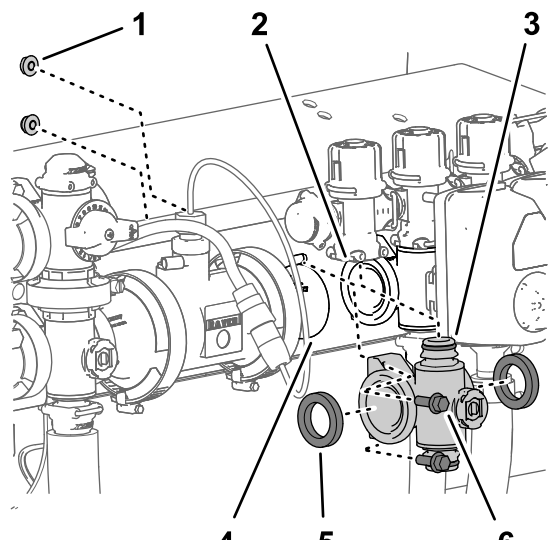

Figure 128
- For left or right section-valve manifolds, remove the 2 flange-head bolts (1/4 x 3/4 inch) and 2 flange locknuts (1/4 inch) that secure the section-valve manifold to the valve support (Figure 128).
- Move the section-valve manifold and gaskets down to clear the section-bypass valve and then away from the machine (Figure 128).